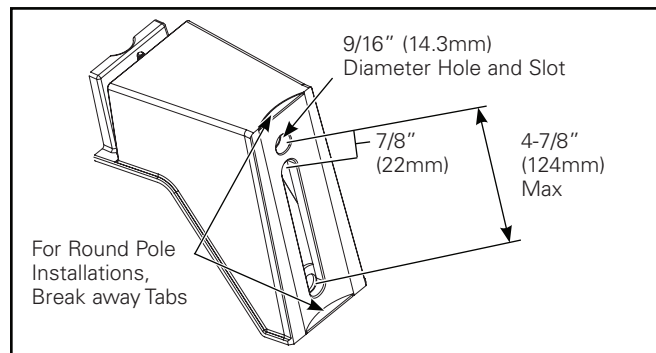

Figure 8.
2. The pole mount arm is designed for a square or round pole. Round pole installation will require the break-away tabs to be removed. Use pliers to remove tabs. (Figure 8.)